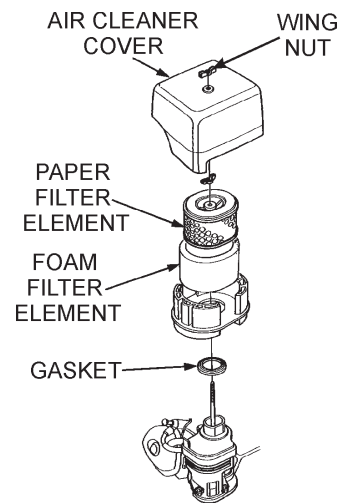

Figure 28. Engine Air Filter
1. Remove the air cleaner cover and foam filter element as shown in Figure 28.
2. Tap the paper filter element (Figure 28) several times on a hard surface to remove dirt, or blow compressed air [not exceeding 30 psi (207 kPa, 2.1 kgf/cm2)] through the filter element from the air cleaner case side. **NEVER** brush off dirt. Brushing will force dirt into the fibers. Replace the paper filter element if it is excessively dirty.